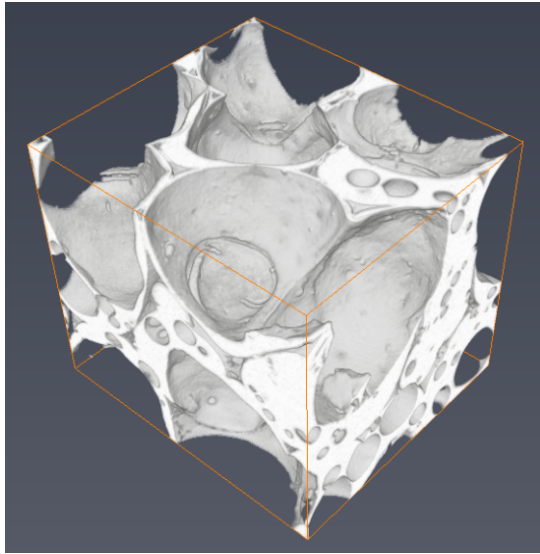

Figure 17.3: Original Data Display
1. Load the file `data/tutorials/PNM/Sponceram.am` and display it using the *Volume Rendering* module. Set the *Colormap* port max to `4590` to have a better rendering (see Figures 17.3 and 17.4 with *colormap* configured to hide the void phase).